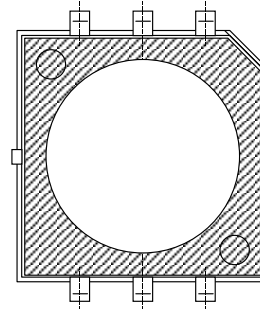

figure 2
NOTE 3 : The standard surface of measurement is the shaded area in Figure 2.
- The recommended standard mounting surface for this LED is the shaded area shown in Figure 2 below.